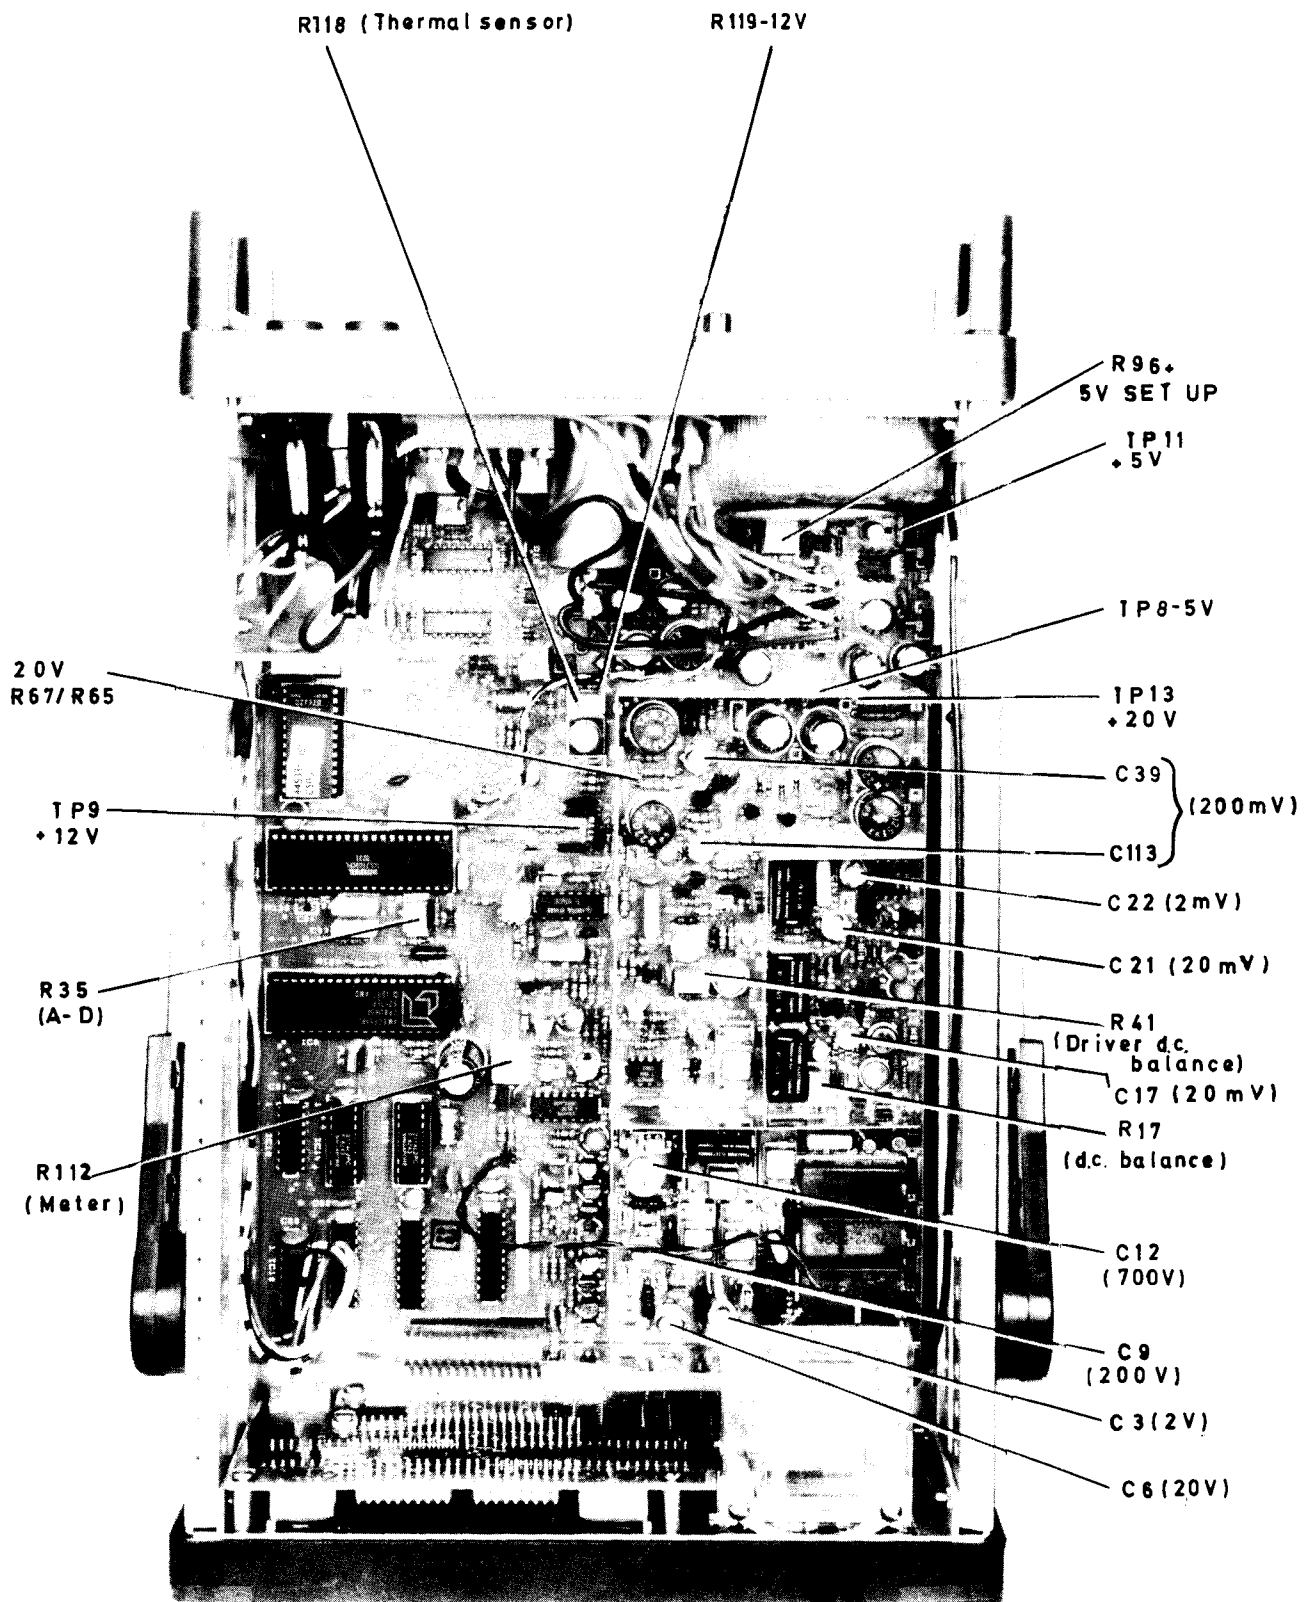

Fig. 1 2610 Preset controls and test point locations
Internal layout (Fig. 1)
9. Fig. 1 shows the internal layout with the preset controls identified for easy location. Also shown are the test point locations for measuring the supply voltages.